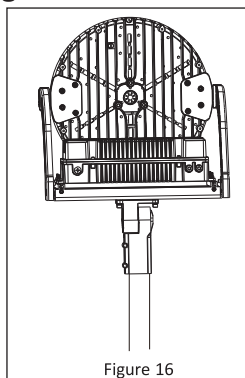

Figure 16
2. Place the bracket onto the pole and secure the 4 locking bolts. **See Figure 16.**